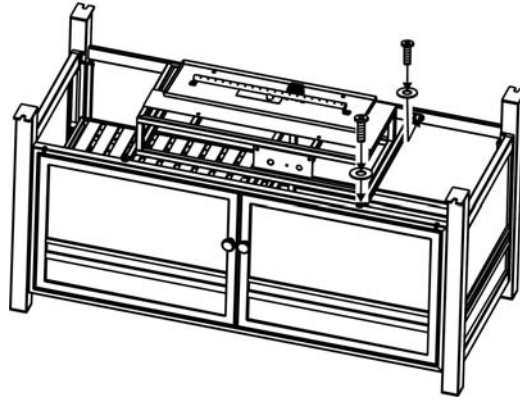

Figure 9
9. Attach the complete firepan/burner assembly to back panel with door panel by using four 1/4"x20 mm bolts and Ø6.5X1.0mm washers as shown in Figure 9. Hand tighten only.